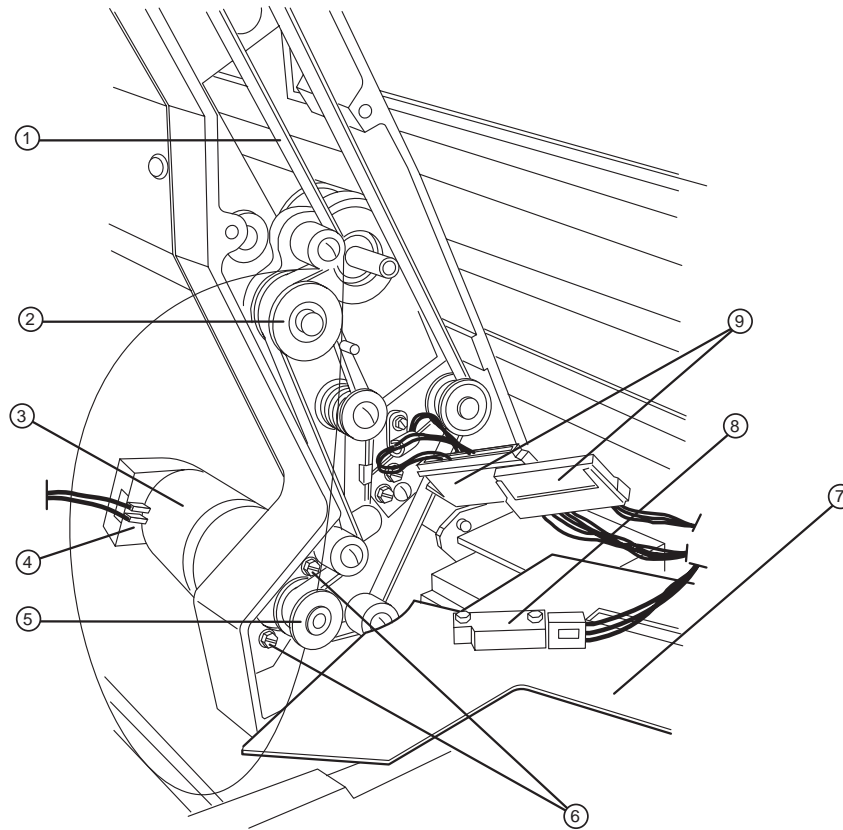

Figure 4-3 Bridge side cover exposed view.
4. Remove the female connector from the other side of the cover. Refer to Figure 4-3.
5. Remove the connector from the bridge up sensor to release the side cover. Refer to Figure 4-3. Move the cover away.
7. Using a large flathead screwdriver, remove the two (2) servo motor mounting screws. Refer to Figure 4-3.
8. Using an allen head wrench, remove the two set screws from the servo motor gear. Refer to Figure 4-3.
9. Remove the gear from the motor. Refer to Figure 4-3.